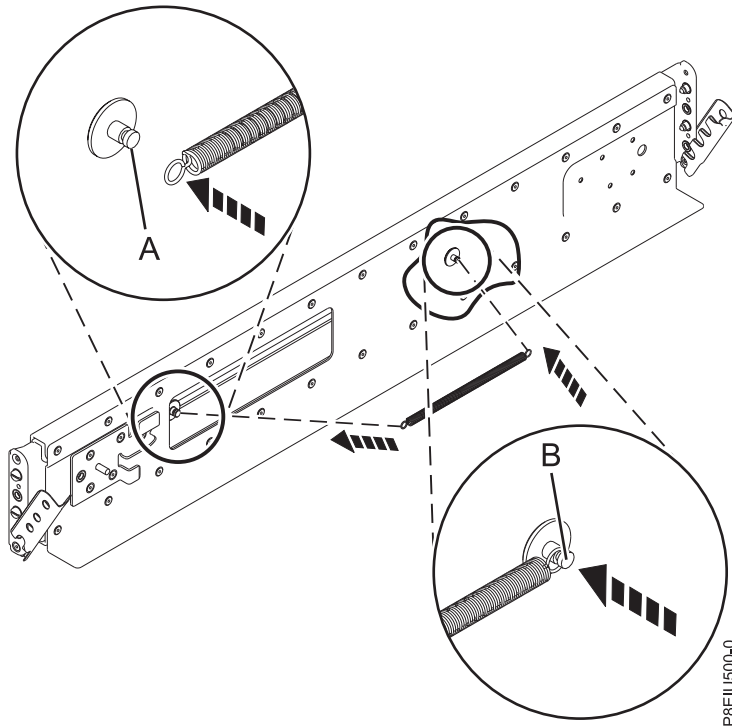

Figure 3. Installing the spring to the rail
4. Install the spring to the rail by hooking one end around one of the circular standoffs **(A)** and the other end around the other circular standoff **(B)** as shown in Figure 3 on page 5.